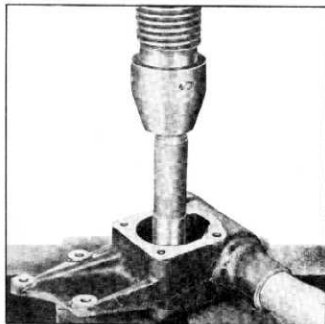

Fig. 11—Replacing Sector Shaft Bushing
1. Support steering gear housing in an arbor press and press sector shaft bushing packing and packing retainer from housing using J-1614 sector shaft bushing driver (fig. 11).